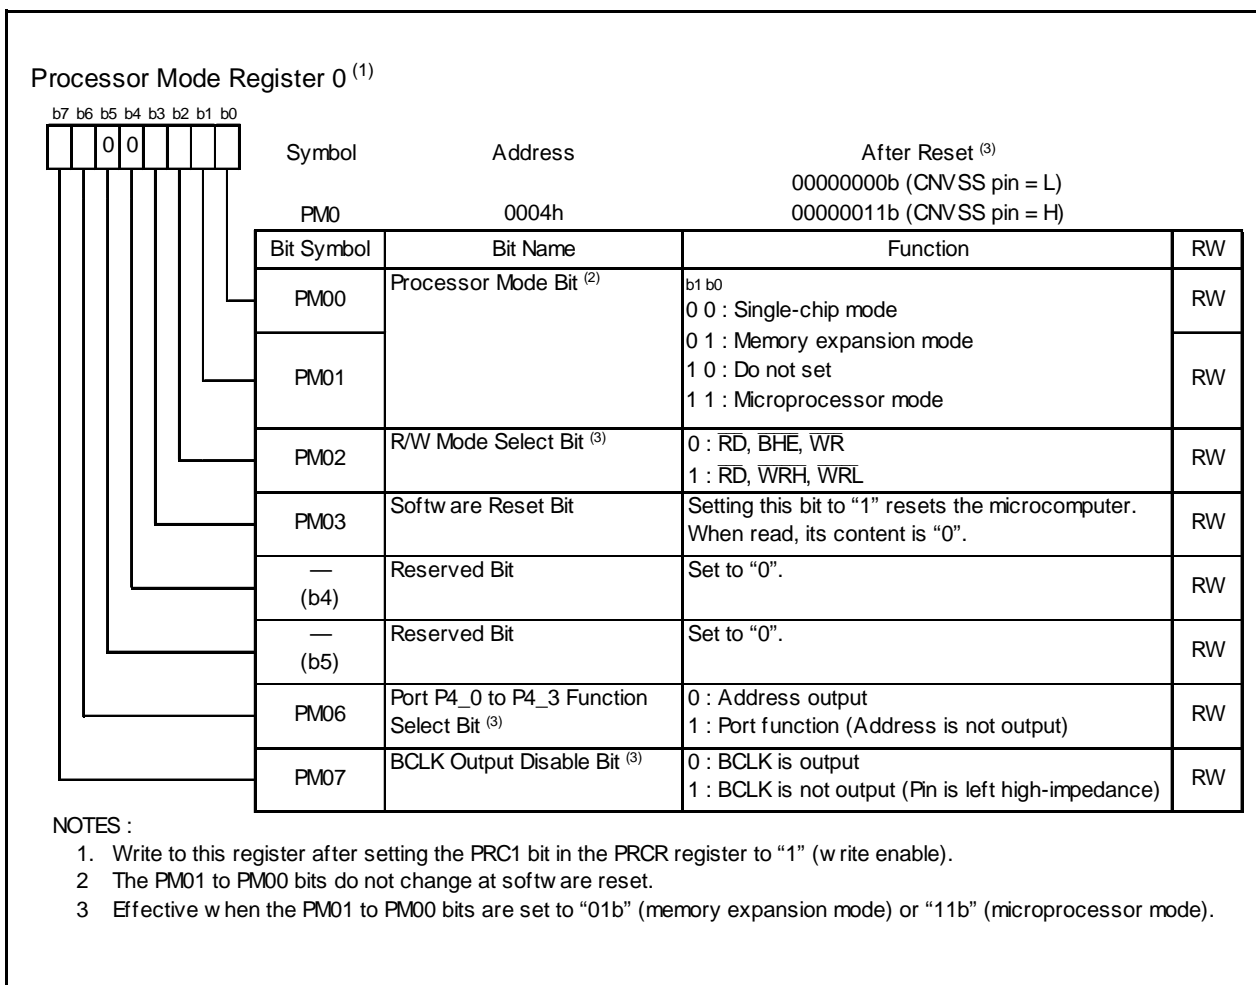
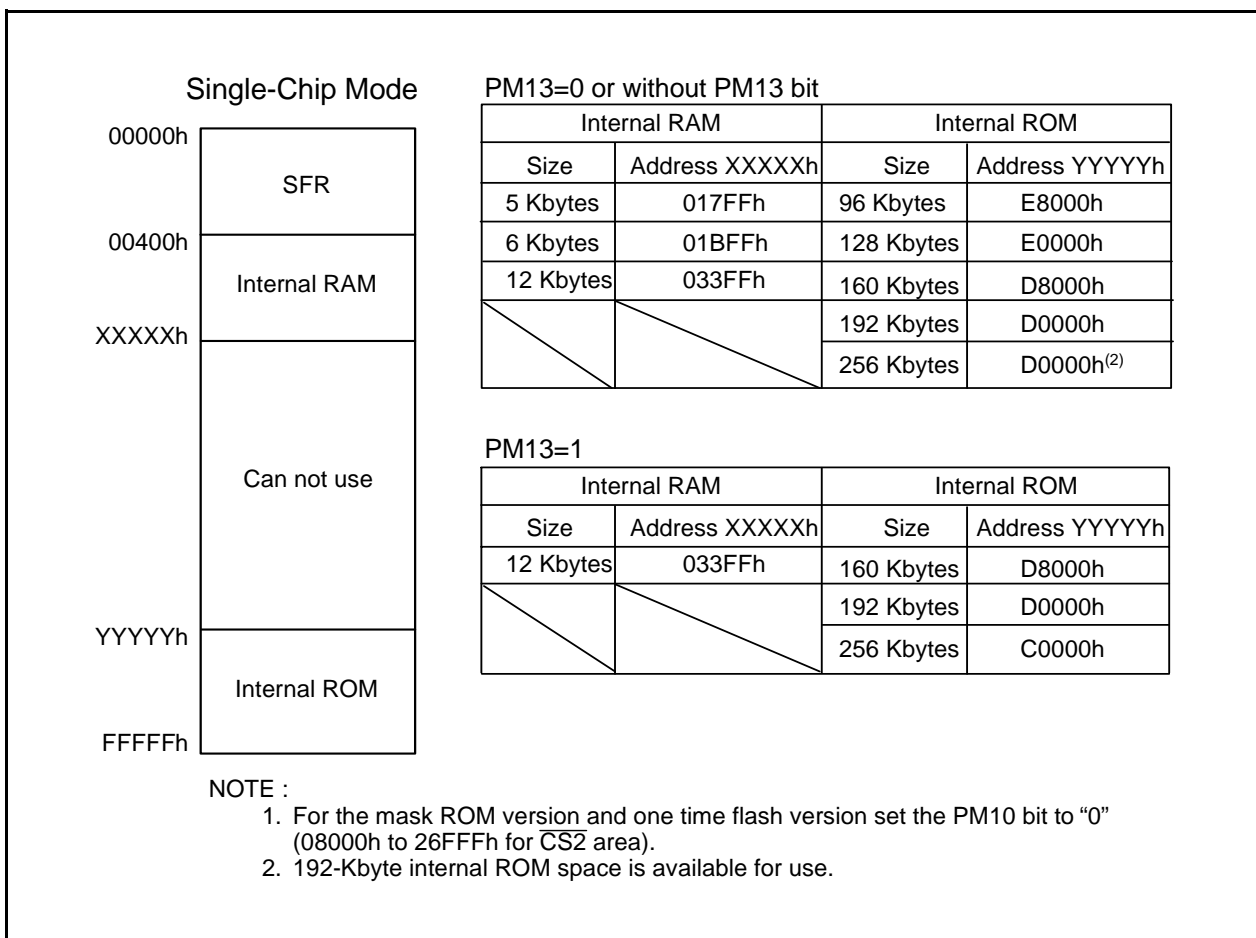

Figure 6.1 PM0 Register
Figure 6.4 Memory Map in Single Chip Mode
Figures 6.1 and 6.2 show the PM0 Register and PM1 Register (1). Figure 6.4 show the Memory Map in Single Chip Mode.